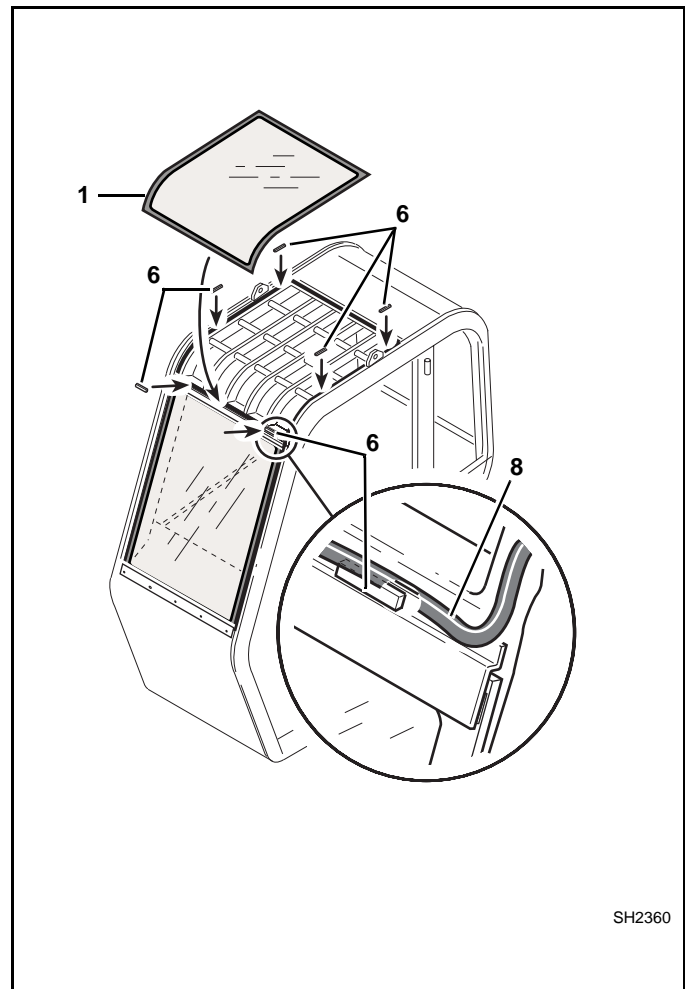

Figure 4
1. Attach six of the setting blocks around the top opening in the cab (Figure 4, 6). Place the setting blocks so they will be completely under the glass and parallel with the edge of the opening.
2. Apply a 3/16" to 3/8" (5 to 7 mm) diameter bead of urethane sealer (Figure 4, 8) around the opening and over the top of the setting blocks.
3. Place the skylight glass in the top cab opening, front edge first (Figure 4, 1). Make sure it is centered on the opening and does not contact any cab metal. Space between the glass and the cab metal is needed for possible expansion and contraction. Press the glass firmly in place to ensure proper bonding of the glass and sealer.